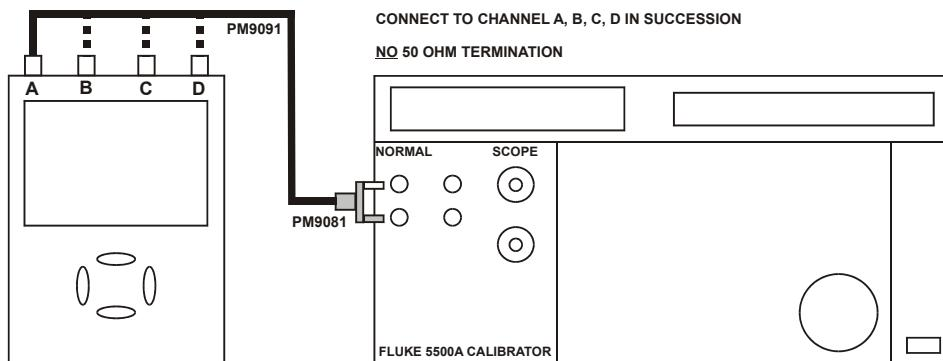

Figure 4-3. Test Tool Inputs A, B, C, D to 5500A Normal Output
1. Connect the Test Tool to the 5500A as shown in Figure 4-3. The vertical channels A, B, C and D are checked in succession so that there is one waveform on the screen at a time. This assures the highest possible readout accuracy.